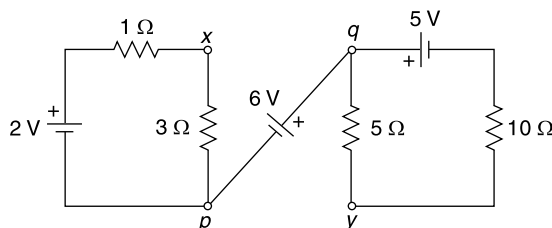

Fig. 4.176
15. For the circuit shown in Fig. 4.176 find the potential difference between x and y . [Ans: -2.85 V]